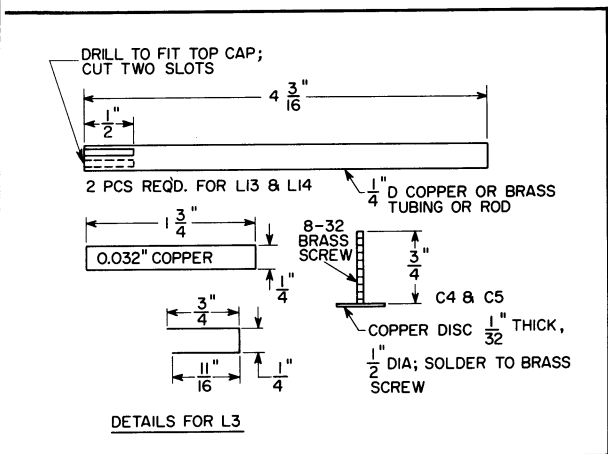

Figure 3: Detailed view of variable capacitors and inductors in rf stages.
- C₄, C₅—See Figure 3
- L₃—See Figure 3
- L₁₃, L₁₄—See Figure 3
The next nuvistor triode stage doubles the frequency to 417.6 megacycles. The plate-circuit inductance (L_3) is a short piece of copper bent into the shape of a "U." Construction details of this tank circuit and the other coil assemblies are shown in Figure 3.